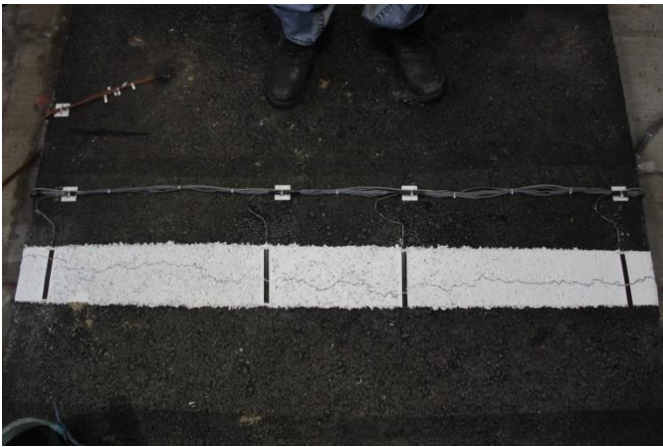

Figure 7. Top view of South test section surface crack
- Top view of the South test section surface crack, as shown in Figure 7.